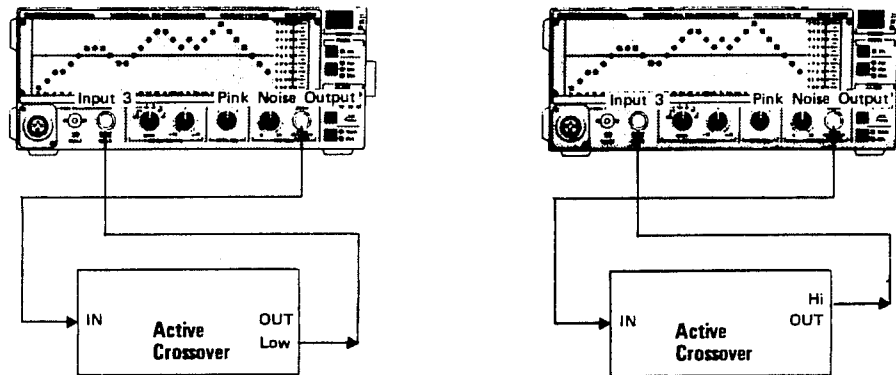

Figure 5.8. Checking an active crossover.
1. Two load resistors, resistance equal to the impedance rating of the crossover, 1 Watt power rating is sufficient. You can also use the speakers that will be connected to the crossover as a load. If you're checking an active crossover, you don't need the load resistors. Use the setup shown in Figure 5.8.